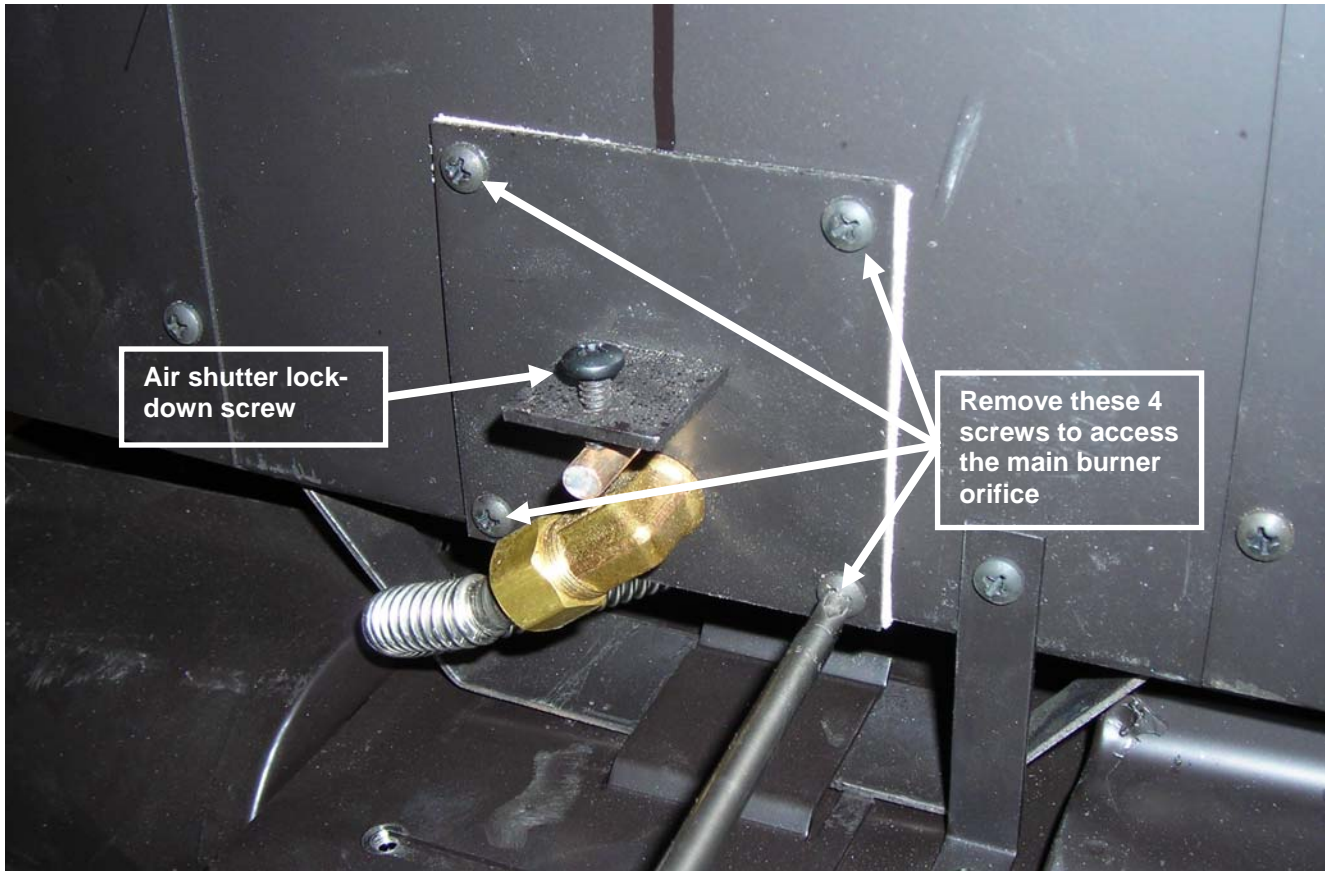

Figure 1
- 2) From behind the stove loosen (but do not remove) the screw that locks the air shutter in place. Locate and remove the (4) 8-32 screws that mount the orifice plate to the firebox body. See Figure 1 below.